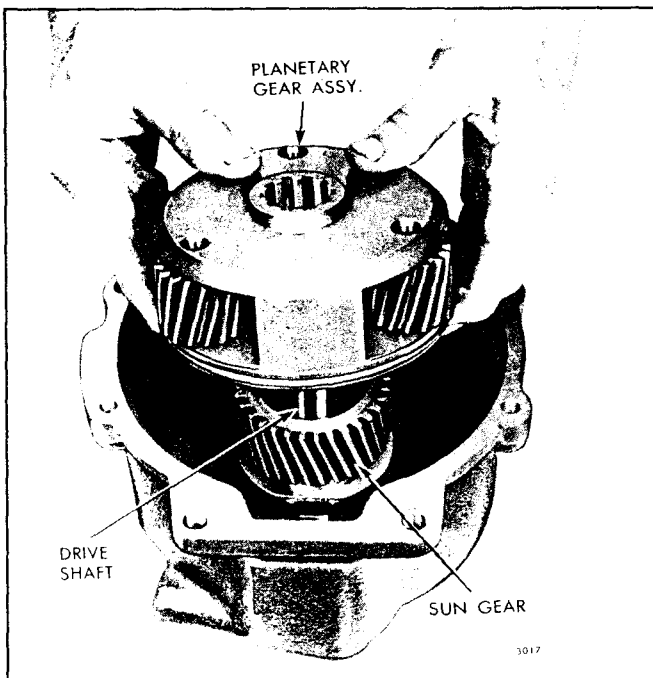

Fig. 36 - Removing or Installing Planetary Gear Assembly from/on Reduction Gear Drive Shaft (1.5:1 Ratio)
3. Lift the planetary gear assembly straight off of the reduction gear drive shaft and sun gear as shown in Fig. 36.